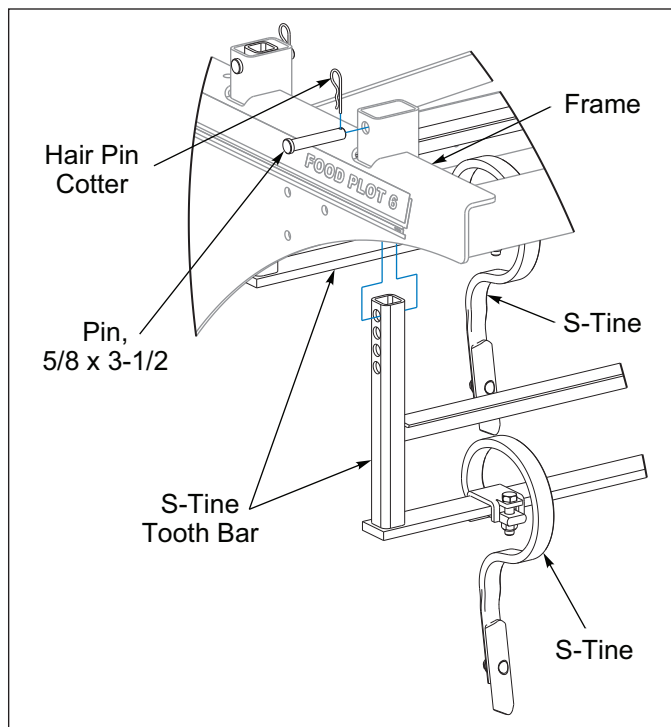

Figure 3-6: S-Tine Adjustment
2. Remove the Hair Pin Cotter from the 5/8 x 3-1/2 Pins that hold the S-Tine Tooth Bar in position. **See Figure 3-6.**